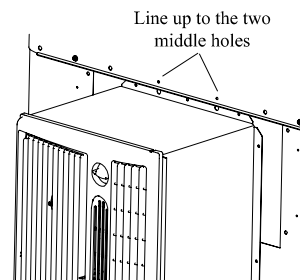

Fig. 11
4. Insert the flange of the tunnel between the front panel and the top pan. Line up the two larger holes in the tunnel with the center two holes of the top pan. (Fig 11).